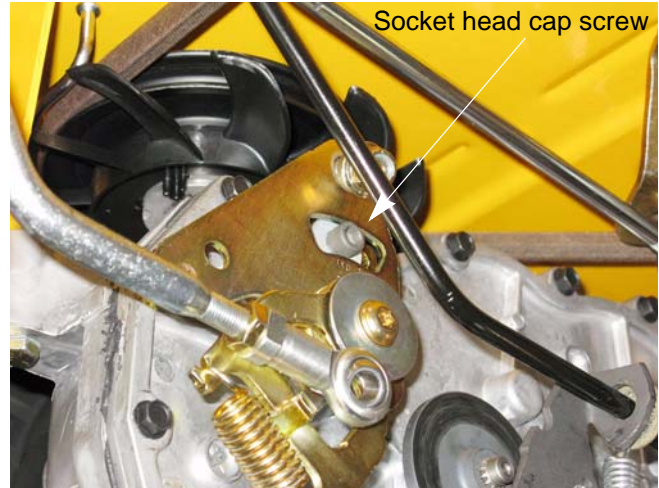

Figure 4.36
8. Loosen the socket head cap screw using a 1/4" hex key. See Figure 4.36.